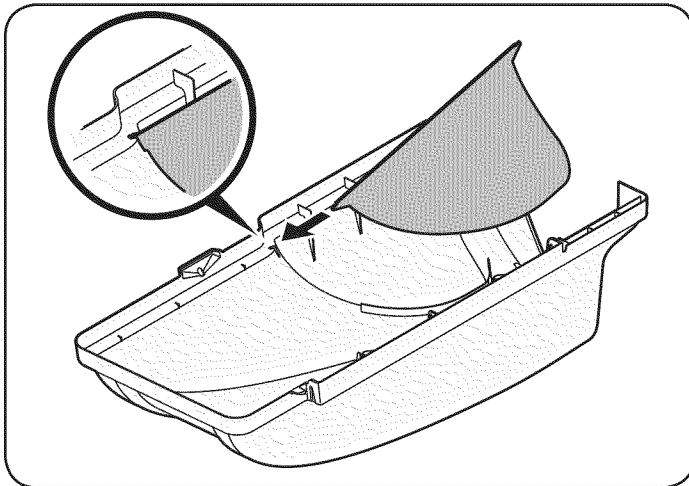
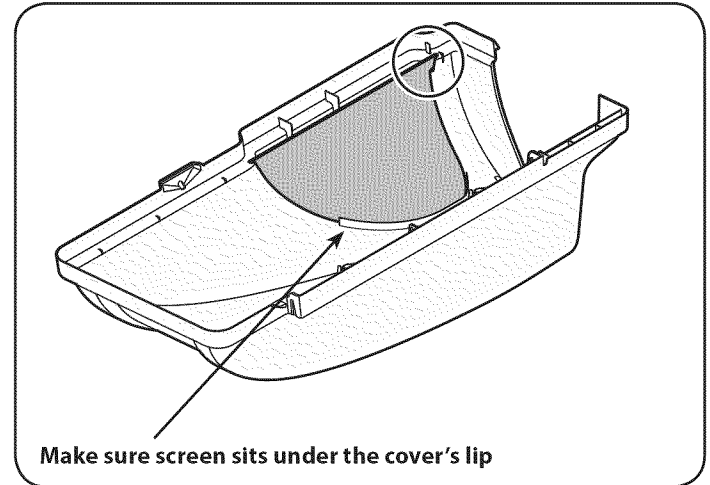

Figure 8
Figure 9
3. If not previously installed by the factory, install the bagger screen into the bagger cover by first inserting the end closest to the center into the cutout mounting hole, as in Figure 8. Make sure to feed the screen under the lip, as in Figure 9.
4. Clip in the other side by flexing the screen and pushing it down into the provided cutout hole. See Figure 9.